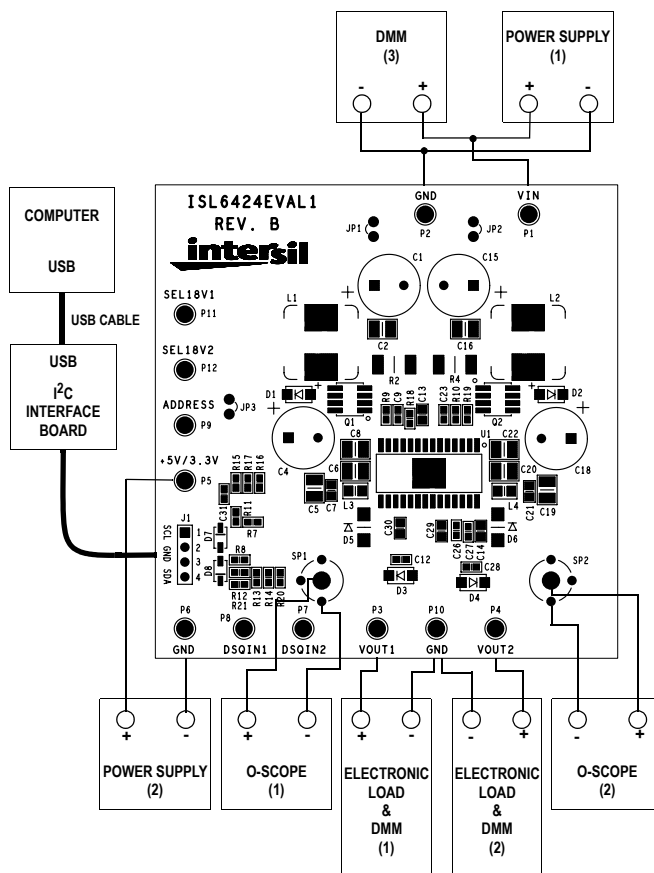

FIGURE 3. ISL6424EVAL1 TEST SETUP
7. To connect the USB-I²CIO board to the ISL6424 evaluation board, use the 5-pin to 4-pin connector cable. Connect the 5-pin connector to J4 on the USB-I²CIO board and the 4-pin connector to J3 on the ISL6424 evaluation board. Figure 3 and 4 show the test setup configuration to evaluate the ISL6424 evaluation boards.